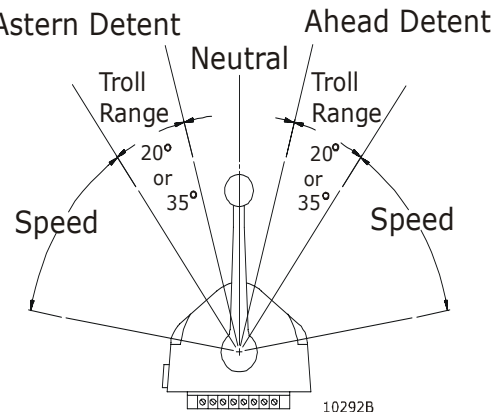

Figure 2: Control Head Troll Range
- The degree of Control Head lever movement dedicated to Troll Range command, is selectable for either 20 or 35 degrees (refer to Figure 2:)